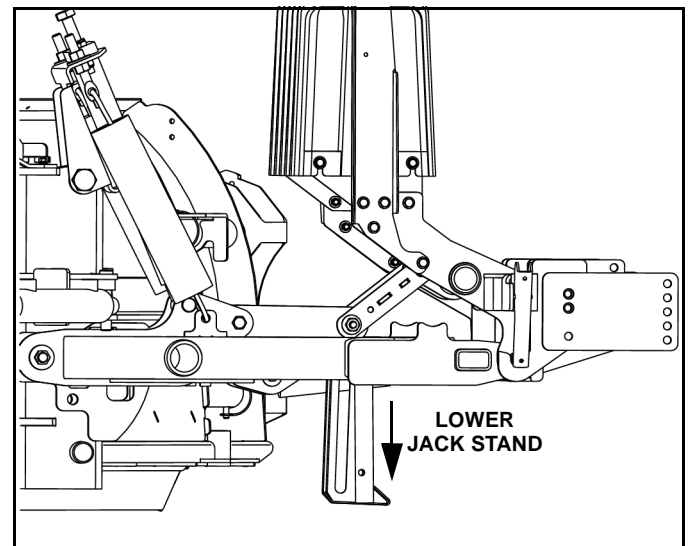

Figure 1-32
8. Lower the jack stand and engage the top pin by pushing on the handle. Make sure pin is engaged in hole by rotating jack stand back and forth. (See Figure 1-32).